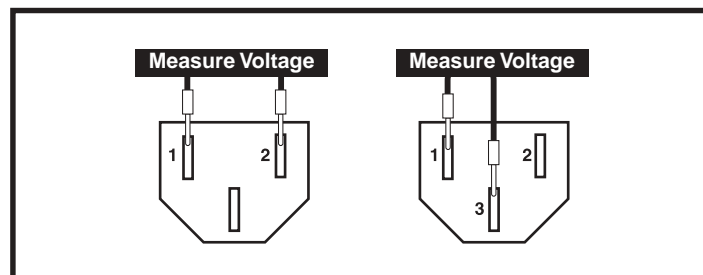

Figure 18. Power cord
5. Measure the AC voltage across pin 1 and pin 2 and then across pin 1 and pin 3 of the power cord. See **figure 18**.